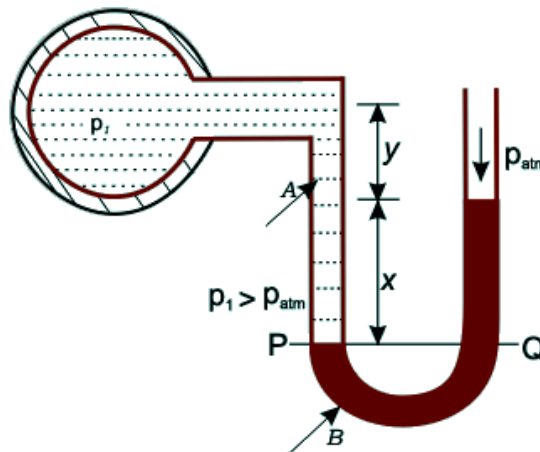

Figure 4: A simple manometer to measure gauge pressure.
Manometers are devices in which columns of a suitable liquid are used to measure the difference in pressure between two points or between a certain point and the atmosphere. Manometer is needed for measuring large gauge pressures. It is basically the modified form of the piezometric tube. A common type manometer is like a transparent "U-tube" as shown in Fig. 4.
One of the ends is connected to a pipe or a container having a fluid (A) whose pressure is to be measured while the other end is open to atmosphere. The lower part of the U-tube contains a liquid immiscible with the fluid A and is of greater density than that of A. This fluid is called the manometric fluid. The pressures at two points *P* and *Q* in a horizontal plane as shown in Fig. 4 within the continuous expanse of same fluid (the liquid B in this case) must be equal. Then equating the pressures at *P* and *Q* in terms of the heights of the fluids above those points, with the aid of the fundamental equation of hydrostatics Eq., we have